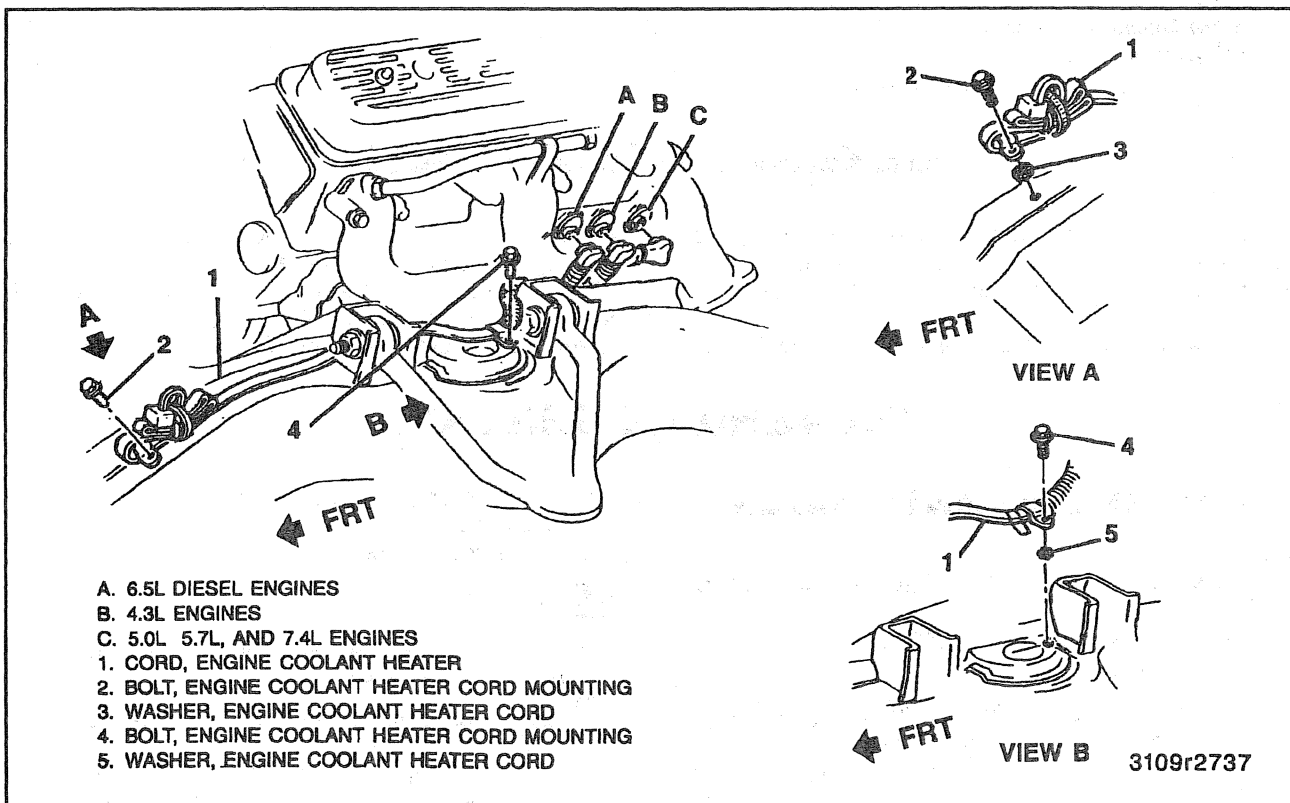

Figure 2—Engine Coolant Heater Cord Routing (Two-Wheel Drive Models)
4. Heater cord to the coolant heater and route heater cord (figures 2 through 6).